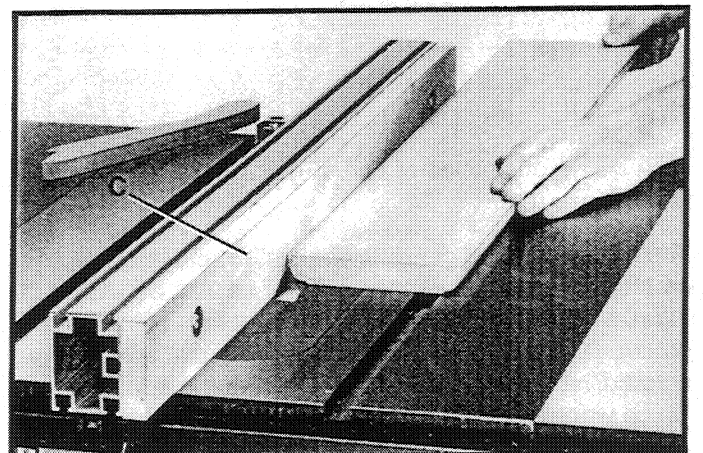

Fig. 88
It is necessary when using the moulding cutterhead to add wood-facing (C) to the face of the rip fence, as shown in Fig. 88. The wood-facing is attached to the fence with wood screws through holes which must be drilled in the fence. 3/4 inch stock is suitable for most work although an occasional job may require 1 inch facing.
Position the wood-facing over the cutterhead with the cutterhead below the surface of the table. Turn the saw on and raise the cutterhead. The cutterhead will cut its own groove in the wood-facing. Fig. 88, shows a typical moulding operation. **NEVER USE MOULDING CUTTERHEAD IN A BEVEL POSITION.**